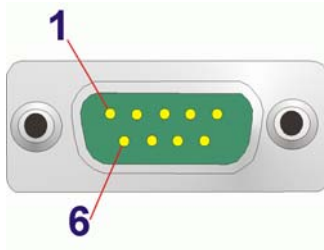

Figure 3-23: Serial Port Pinout Location
- CN Pinouts:** See **Table 3-6** and **Figure 3-23**